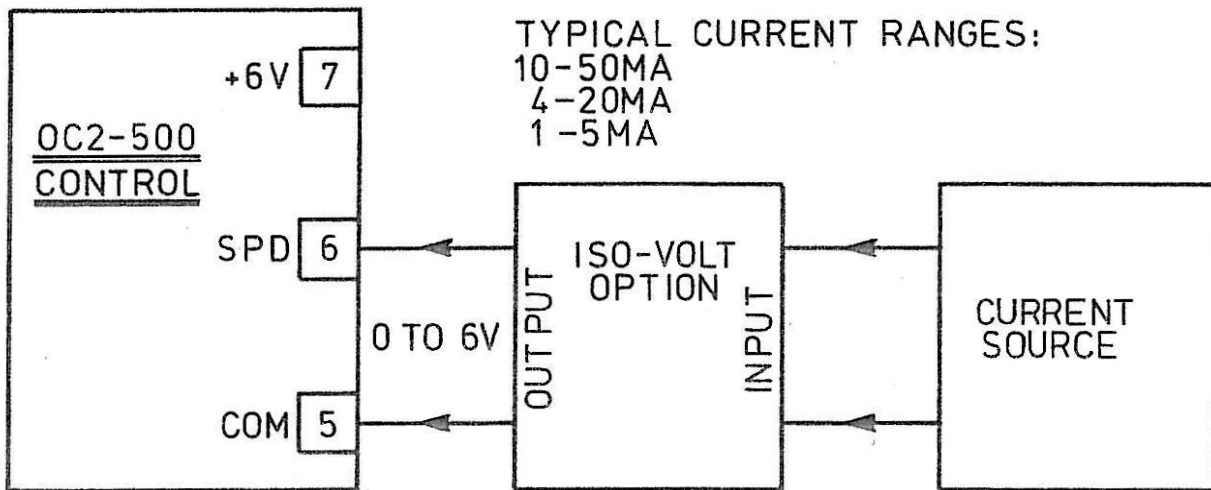

FIG. 6.2 EXTERNAL CURRENT SOURCE
- c) If the external signal source is not isolated from the AC lines or if this signal is to be used by more than one drive, the AC power must be supplied to the OC2 control via an isolation transformer, or a signal isolator PC board must be used. When a process instrument controller is used having an output which normally is 1-5, 4-20, or 10-50mA, a signal isolator board should be used in order to convert to a 0 to 6 volt level and to set the drive minimum speed properly. See Figure 6.2